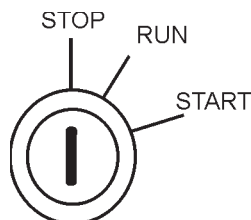

Figure 56. Ignition Switch (Off Position)
4. Place the ignition switch (Figure 56) in the “**STOP**” position, remove the key and store in a safe place.
2. Turn the ignition switch key to the **STOP** position (Figure 56).